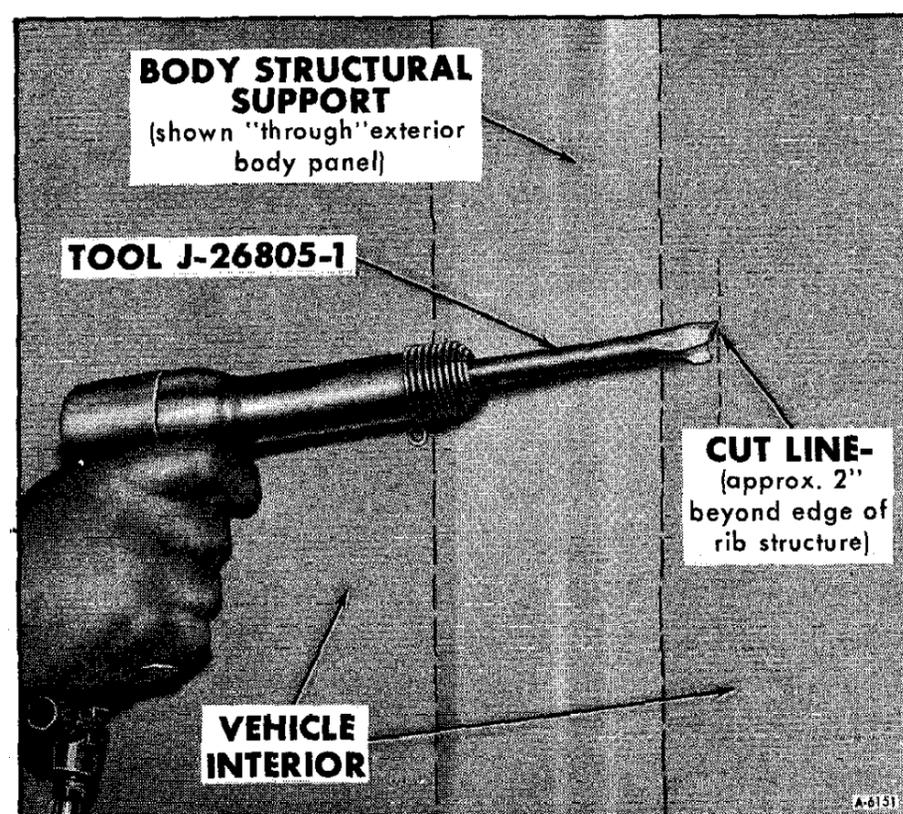

Figure 10—Panel Removal With Air Chisel—Step 3
3. Working from the vehicle exterior and using a standard air chisel with a Rip Bit (J-26805-1), cut along the inside edge of the damaged panel, parallel to the ribs and approximately two inches "inside" of the rib structure. (See figure 10.) Then remove the cut-out section of the panel.